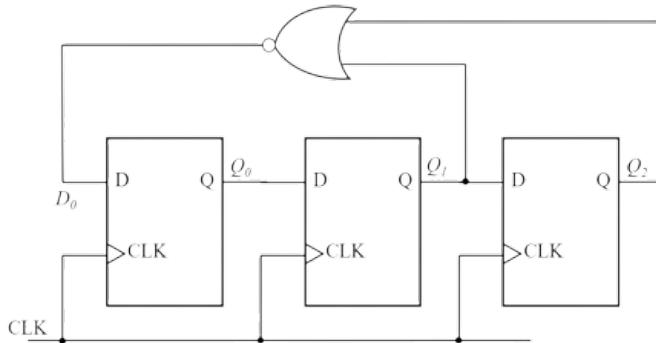

Fig. 5.12
12. The digital circuit shown in Fig. 5.12 (GATE IN 2022)